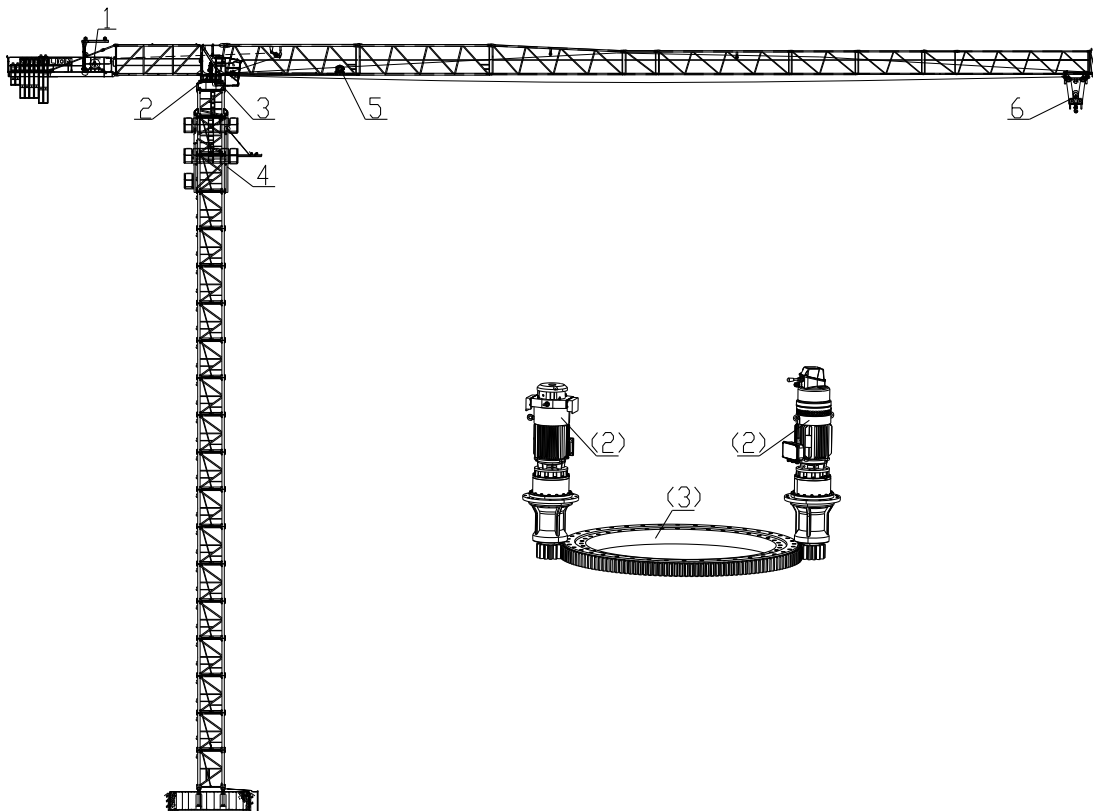

Fig. 6-1 Parts required for maintenance
Weekly maintenance	Slewing ring ^③ —Grease the gear teeth, see Fig. 6-1